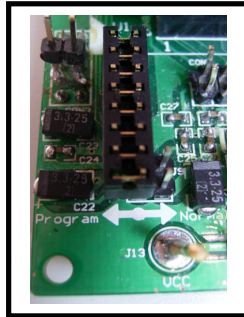

Figure 7.8 Select "Program" Mode
- Step 3. 8 Pin Jumper jumps to "Program", as shown in the Figure 7.8.